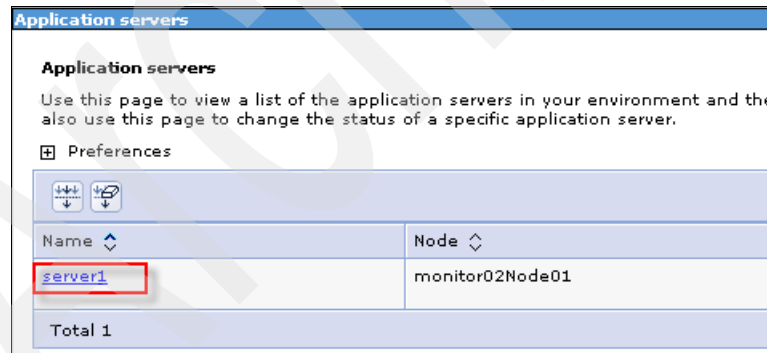

Figure 7-25 Application servers
2. In the Application servers panel (Figure 7-25), click **server1**.